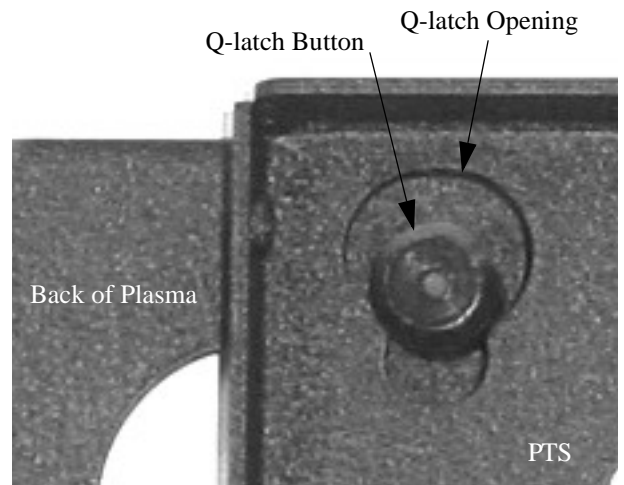

FIGURE 7. ENGAGE Q-LATCH
3. Using two people, align the Q-latch buttons with the Q-latch openings and install the display. Make sure the buttons of the Q-latch bracket fully engage all the Q-latch openings on the PTS (see Figure 7).